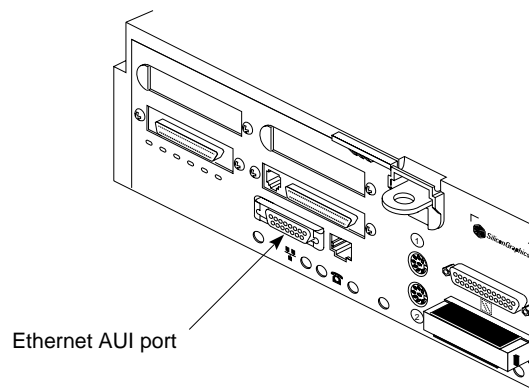

Figure 3-3 Connecting an Ethernet AUI Cable to the Challenge S Server
2. Connect the Ethernet AUI cable to the Ethernet AUI port on the back of the Challenge S server, as shown in Figure 3-3.